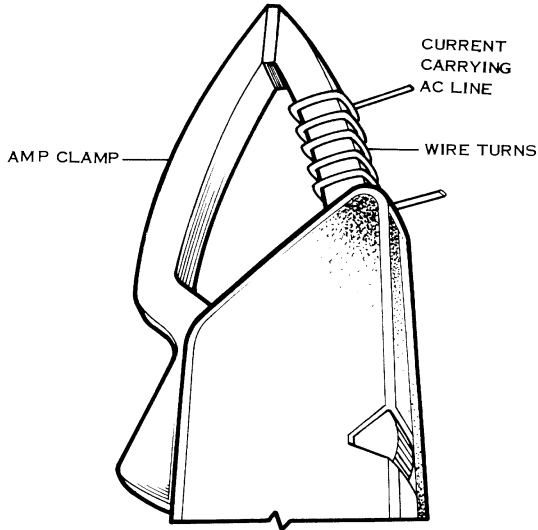

Figure 4-1. Increasing Sensitivity of Amp-Clamp
- b. As stated in Section V, the Amp-Clamp functions as a split-core transformer. Other multiples of increased sensitivity can be obtained by winding turns around one of the jaws of the Amp-Clamp, as shown in Figure 4-1.